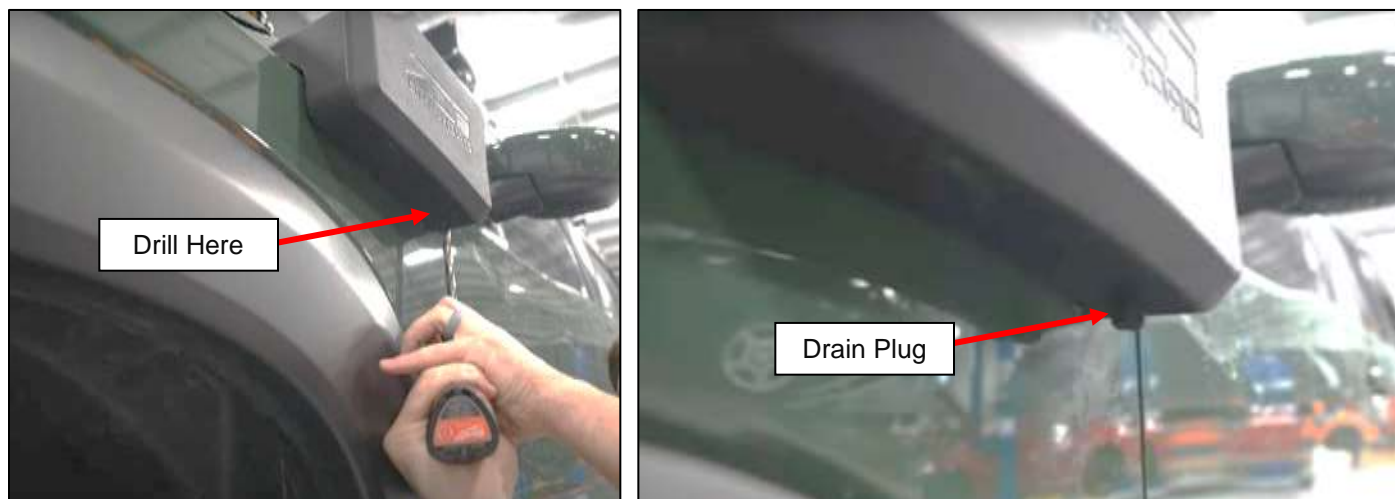

Figure 24
39. This step is optional if you want a Weep Hole or Drain Plug on your Z1 Snorkel. Drill a 3/8" Hole in the bottom of the Snorkel. Once drilled, insert the supplied Drain Plug in the new hole, or it can also be left open as a weep hole. If you don't want a Drain Plug, skip to *Step 40*. *Figure 24*.